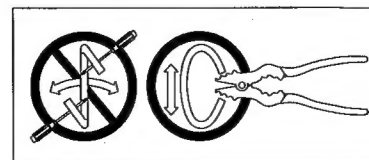

Fig.3
CONNECTING THE WIRES (Fig.3)
17. Connect the electrical wire as shown in figure 3, making sure that all wire connectors are secured. If your outlet has a ground wire (green or bare copper), connect the fixtures ground wire to it. If the junction box has no ground wire, attach the bare copper fixture wire to the green ground screw (Screw: #8-32*3/8"L) on the crossbar. Tuck the wire connections neatly into the ceiling junction box.